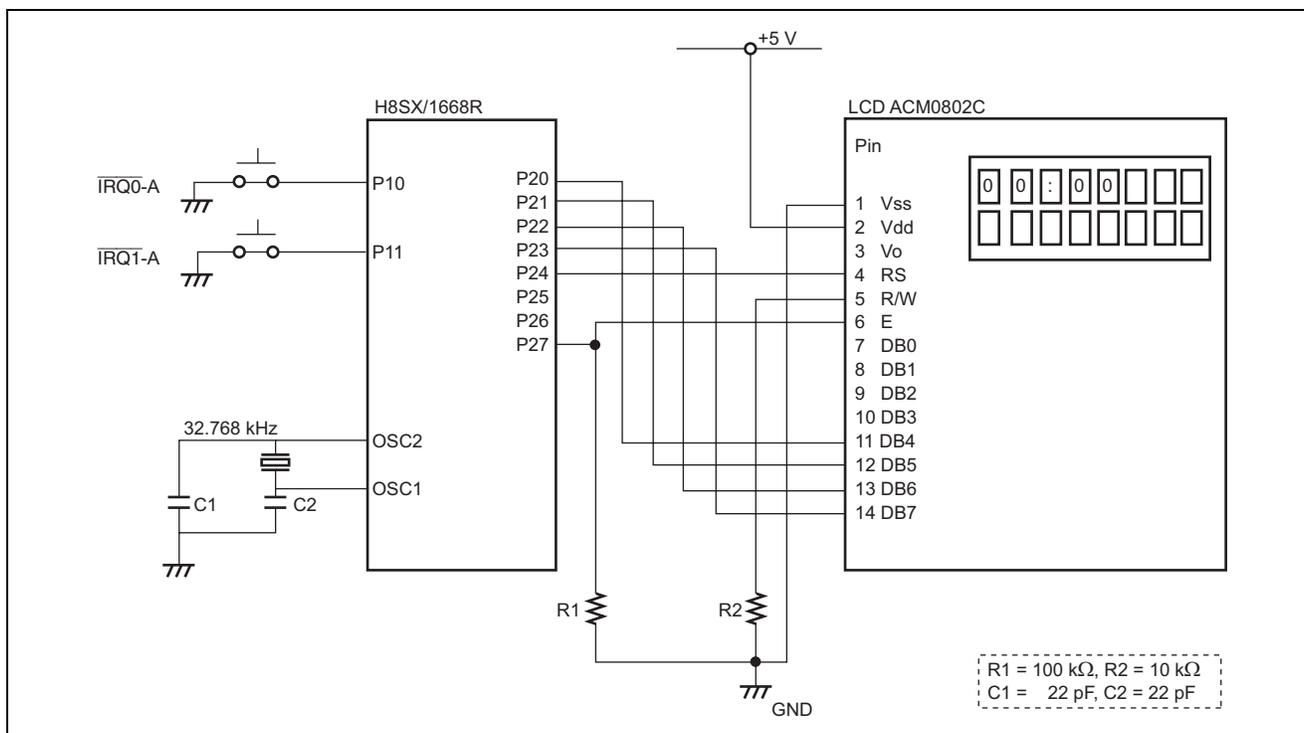

Figure 1 Configuration of the 24-Hour Clock
- The configuration of this clock is shown in figure 1.